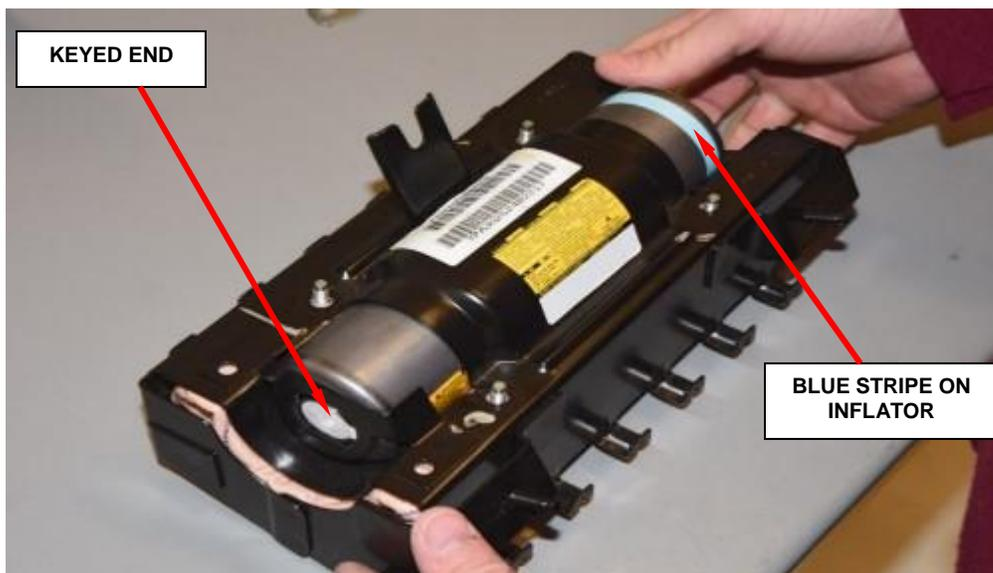

Figure 108 – Insert Inflator (Shown with Cushion Installed)
- i. Slide **new** inflator into housing. The keyed end is inserted first, therefore the blue stripe on the inflator will be located at the open end, as shown (Figure 108).